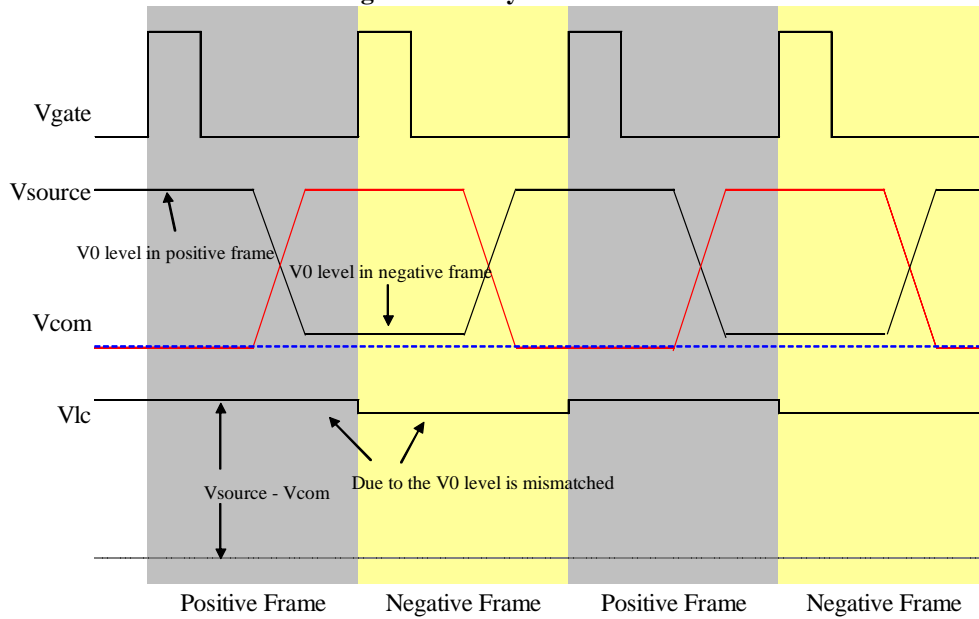

Figure 3-6 Un-matched Vsource Level due to Un-tuned Gamma
- Same color will be displayed when the voltage level of V0 in the positive frame and the negative frame is the same. If they are mismatched, LC voltage will be affected as shown in Figure 3-6 and flickering occurs.
- '+' and '-' represent the polarity of the Vsource level as shown in the positive frame in Figure 3-6.